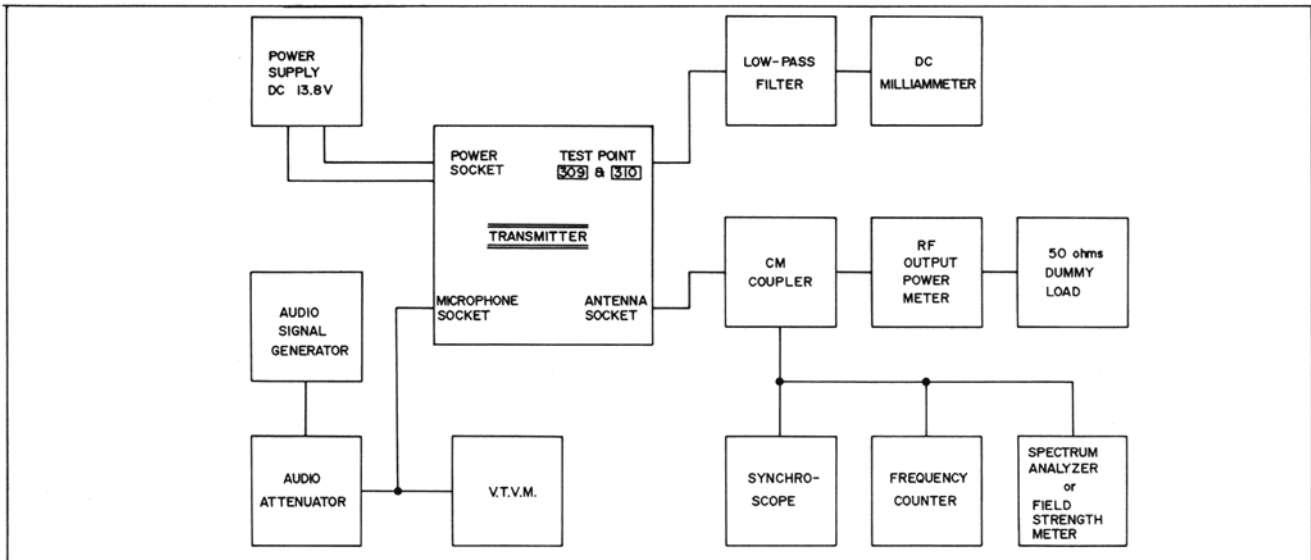

Figure 4
- 2- When making the connection of measuring instruments, see Figure 4.